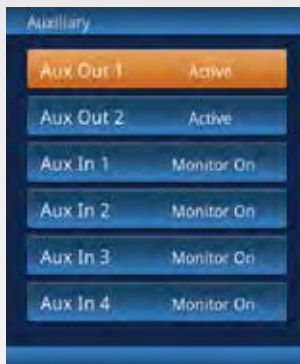

Fig 5.09-1
- From the Access Control menu, use the ▲ or ▼ keys to highlight the Auxiliary menu option. Touch **OK** to enter the Auxiliary menu shown in **Fig 5.09-1**.
- From the Access Control menu, use the ▲ or ▼ keys to highlight the Auxiliary menu option. Touch **OK** to enter the Auxiliary menu shown above in **Fig 5.09-1**.
- From the Access Control menu, use the **▲** or **▼** keys to highlight the Auxiliary menu option. Touch **OK** to enter the Auxiliary menu shown in **Fig 5.09-1**.